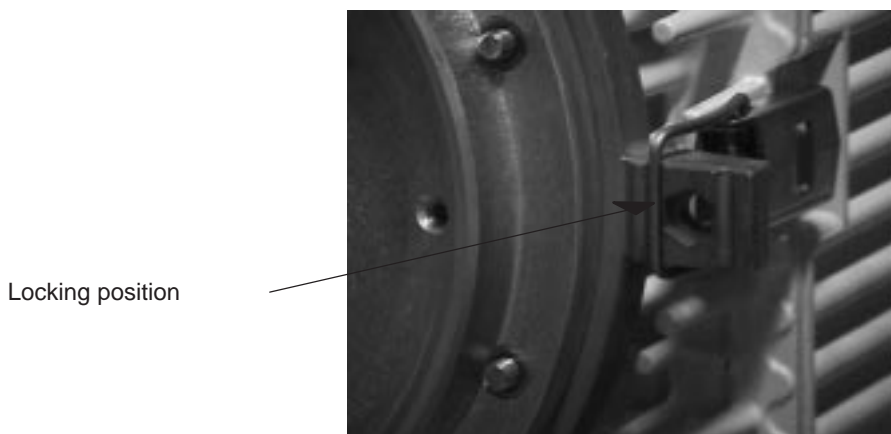

Figure 16 – Locking the Radio unit
2. While holding the radio unit, begin by locking (Figure 16) the **two side snap-locks** on the support, then that at the **bottom**, followed by that at the **top**.